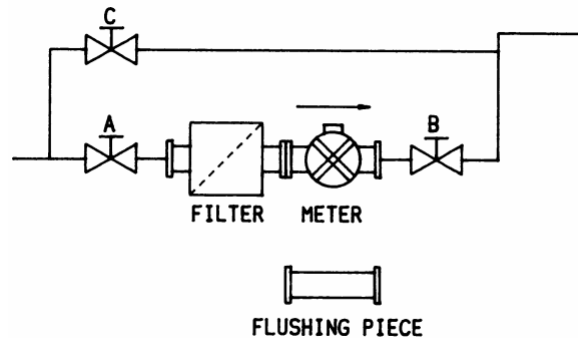

Figure 17 Flowmeter system with bypass
1. Close valves A, B and C (Figure 17).